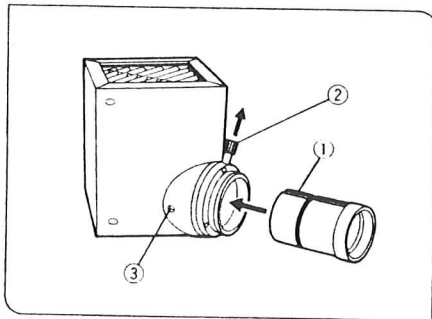
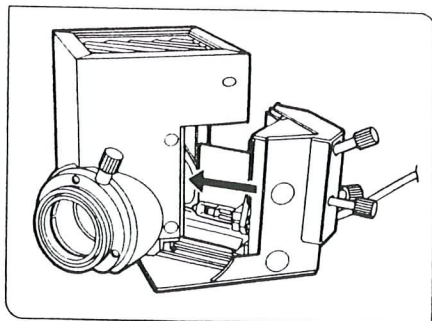

Fig. 22
Fig. 23
### Mounting the Collector Lens and Socket (Figs. 22, 23)
1. Align the collector lens positioning groove ① with the pin inside the lamp mount. Then, pull up the collector lens focusing knob ②, and insert the collector lens until it comes to the end. (Fig. 22)
2. Securely fasten the collector lens with the clamping screw ③.
3. Remount the lamp socket in the reverse order of removal. (Fig. 23)